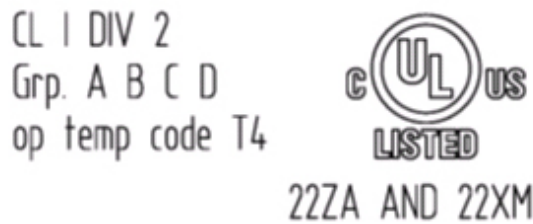

Figure 17: Text Detail – Marking Example for Approved I/O Modules According to NEC 500
- Figure 17: Text Detail – Marking Example for Approved I/O Modules